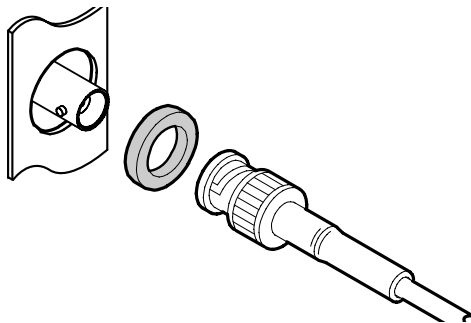
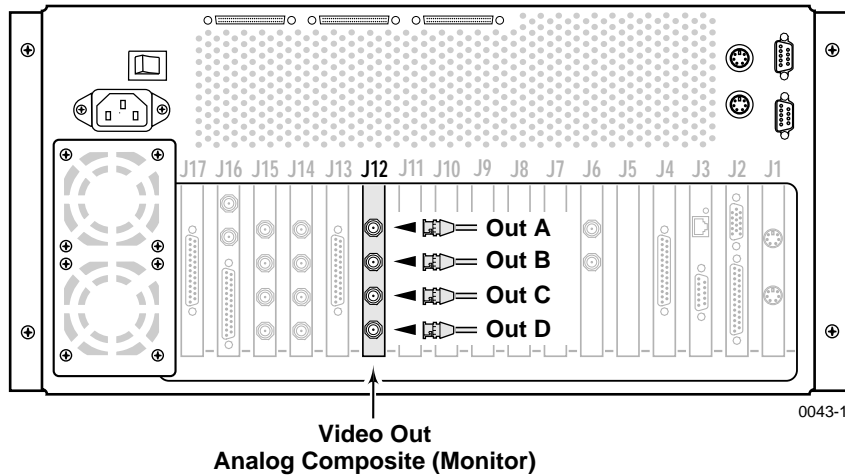

Figure 8. Installing Mesh Washers
Figure 9. Analog Composite Monitor Board Cable Connections
11. Reinstall the Profile chassis in the rack and reconnect all cables previously removed. Before attaching cables to the BNC connectors, install the mesh washers as shown in Figure 8.
12. Install mesh washers (Figure 8) and connect analog composite output cables to the Analog Composite Monitor board. See Figure 9 for an example